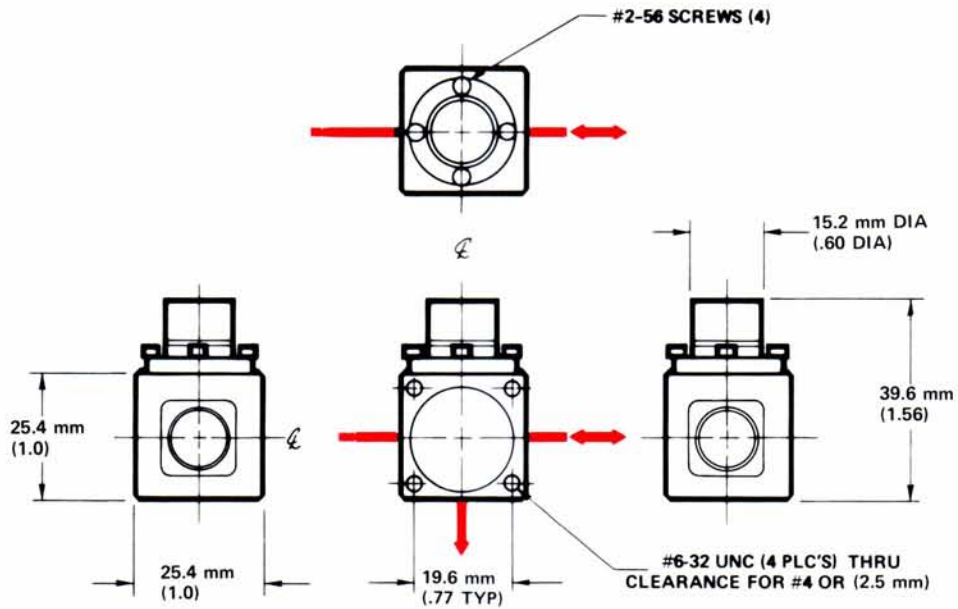

Figure 2-21. 10705A Single Beam Interferometer Specifications
- d. 10705A Single Beam Interferometer, see *Figure 2-21*.